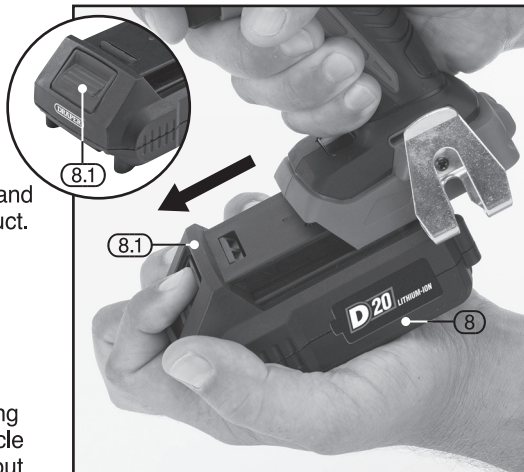

FIG.1
8.1 BATTERY PACK CHARGING – FIGS. 1 – 2
- Press the battery release button (8.1) and gently slide the battery pack off (Fig.1).
- Plug the battery charger (7) unit into a 230V/AC 13amp three pin supply socket.